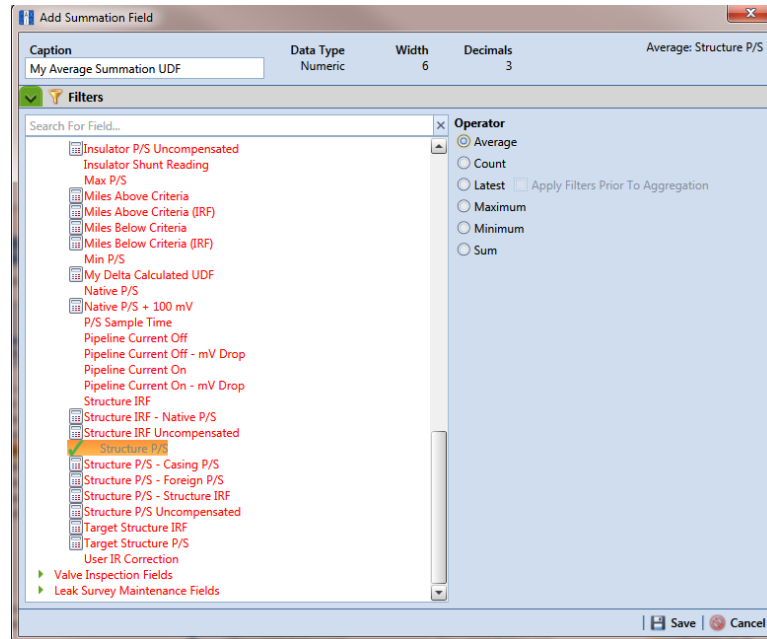

Figure 3-59. Summation Target Field
- 6 Select a target field in the list of fields in the selection panel. For example, click the ► expand arrow for *Test Point Inspection Fields*, then double-click *Structure P/S*. A ✓ green check mark indicates a selection (Figure 3-59, page 107).
- 7 Select an **Operator** option. For example, *Average* is selected in the following figure (Figure 3-59, page 107).